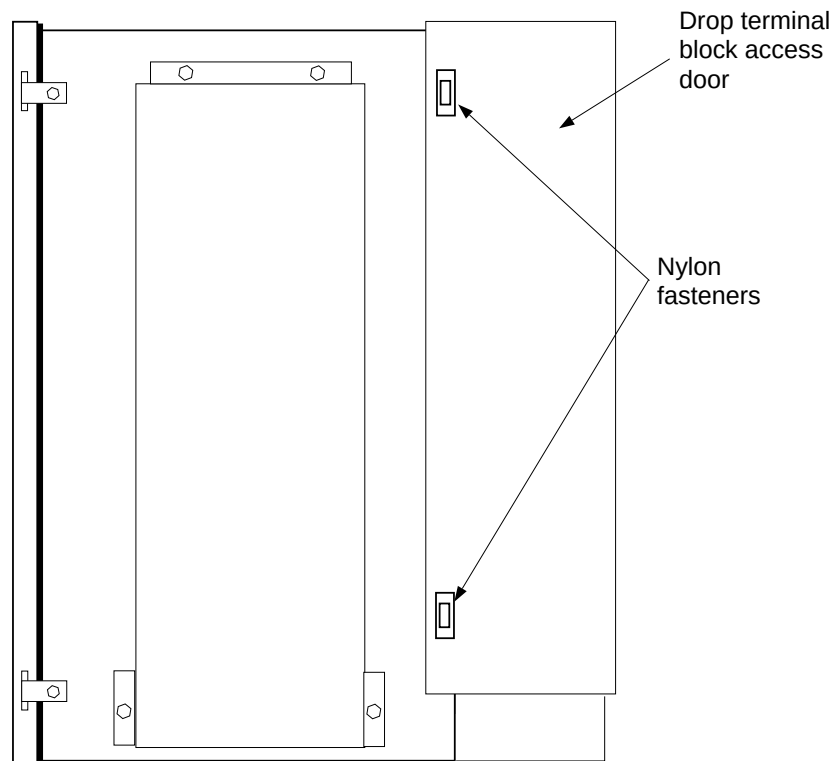

Figure 2 – Side View of NBS Enclosure
8. Locate the drop terminal access door on the side of the NBS (Figure 2).
9. Access the telephony field TB1 by turning the two nylon fasteners one-quarter of a turn in the clockwise direction (Figure 2).